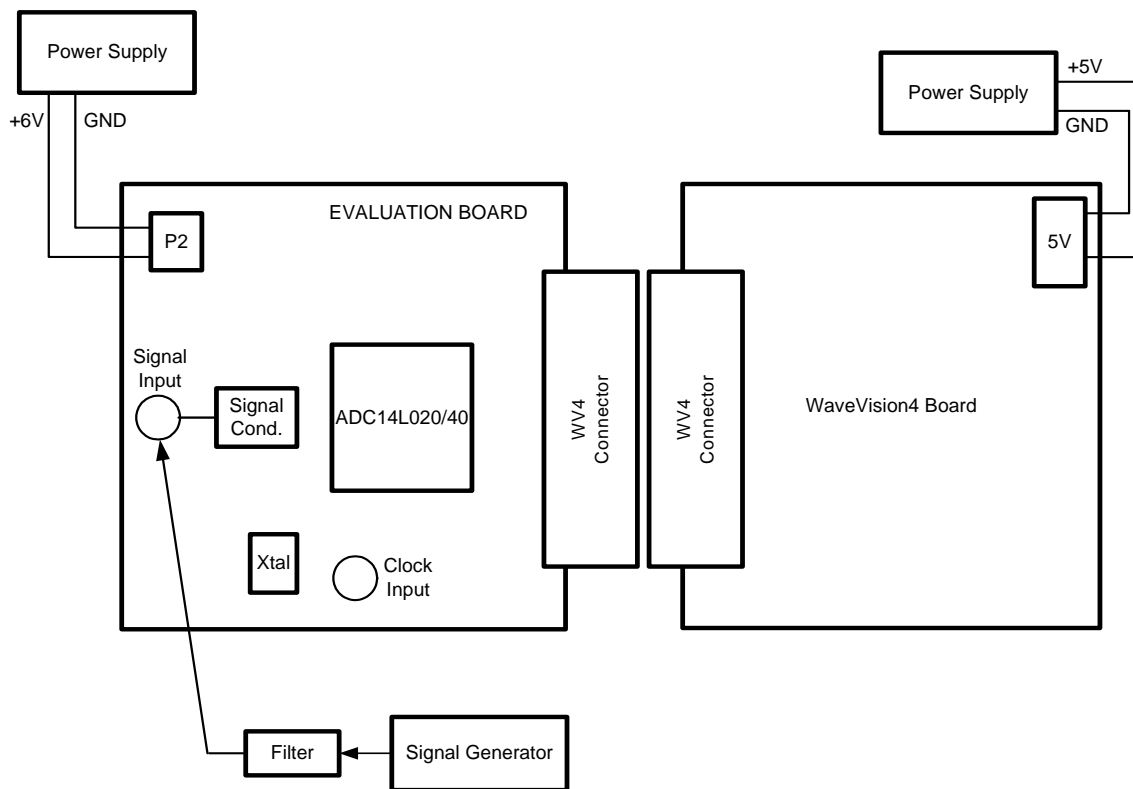

Figure 2. Test set up in Computer Mode
1. The test set up is shown in *Figure 2*. Connect the evaluation board to the WaveVision™ Digital Interface Board. See the WaveVision™ Board Manual for operation of that board. Connect the WaveVision™ board to the computer using a USB cable. Connect a clean +5V power supply to the WaveVision™ board